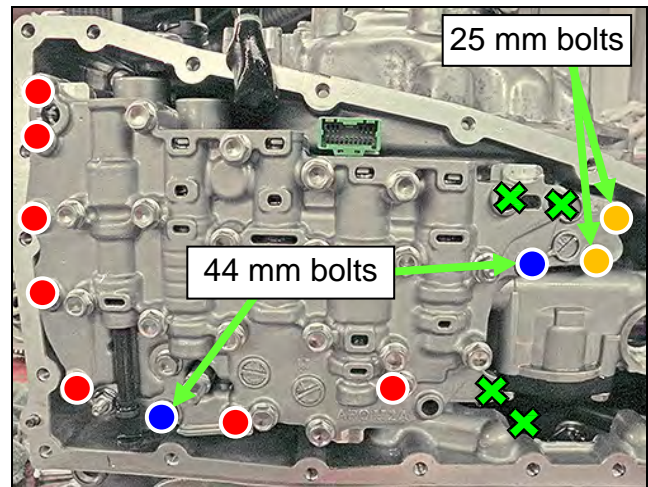

Figure 27
3. Install the Control Valve with eleven (11) mounting bolts (Figure 27).